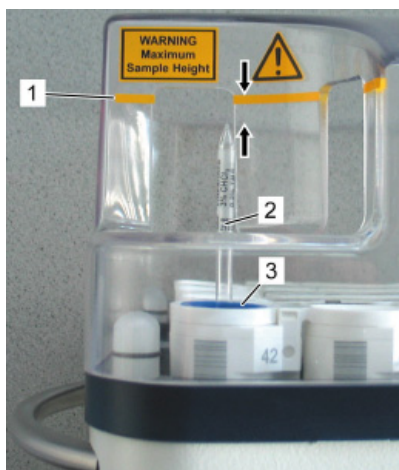

Figure 8.2 Operator Access Position
3. Check if the sample (Figure 8.2/2) is under the maximum sample height. **The glass tube must be below the yellow line, otherwise it will break.** (Figure 8.2/1).